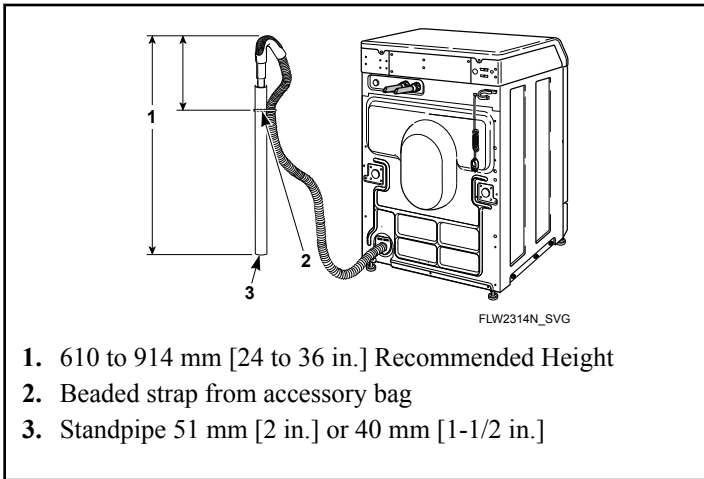

Figure 8
2. Remove the beaded tie-down strap from accessories bag and place around standpipe and drain hose and tighten strap to hold hose to standpipe. Refer to *Figure 8* . This will prevent the drain hose from dislodging from drain receptacle during use.